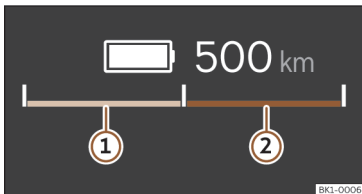

Fig. 26 On the digital instrument cluster: power indicator (schematic representation).
On the bar that is split in half, the power indicator always shows the availability of brake energy recuperation >>> **Fig. 26** ① (green) on the left hand side and power availability >>> **Fig. 26** ② (blue) on the right hand side.